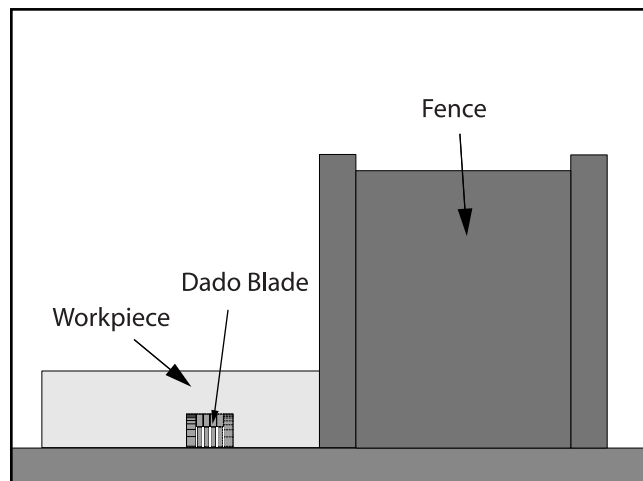

Figure 46. Single-blade dado cut.
6. If dadoing along the long length of the workpiece, adjust the distance between the fence and the inside edge of the blade as shown in **Figure 46**.